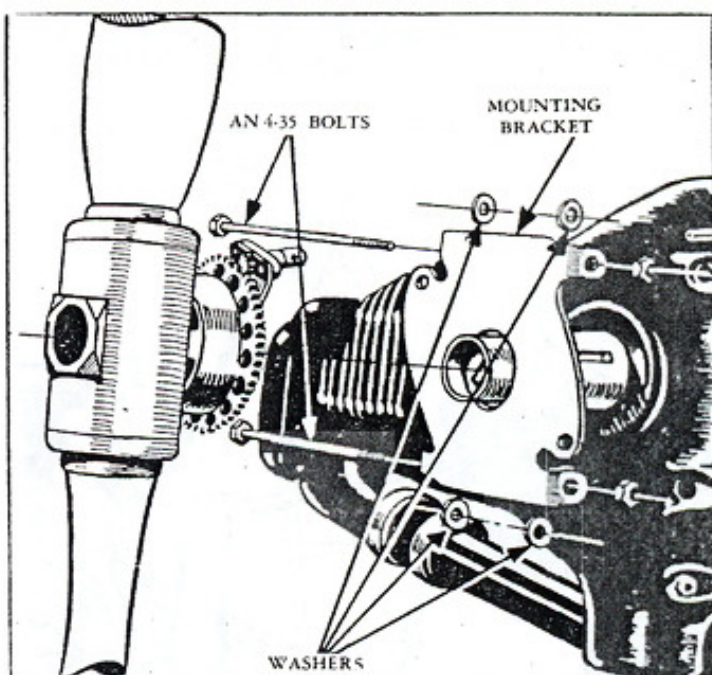

Figure 6A—Pitch Control Mounting Bracket Installation
3. Remove the two AN4-35 crankcase bolts located above and below the propeller shaft. (See figure 6A.)
4. Install the mounting bracket, using the two AN4-35 bolts. Install a washer between each arm and the engine crankcase. (See figure 6A.)